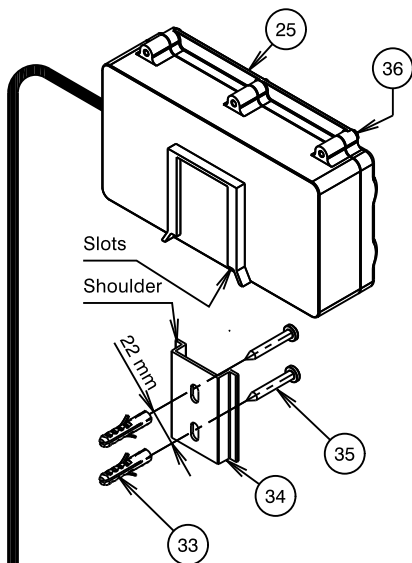

Fig.8 - Battery box installation
- i) Drill two Ø6mm holes, 40mm deep and 22mm apart vertically as shown in Fig. 8.
- ii) Insert small end of wall plugs (33) into drilled holes and tap until flush with wall/tile face.
- iii) Align the slots on bracket (34) with the holes on the wall, pass the screws (35) through the slots and insert into the wall plugs (33). Then tighten the screws DO NOT OVERTIGHTEN.
- iv) Slide the battery box (25) onto shoulder of bracket (34).
- i) Drill two holes at 22mm apart vertically to suit the self tapping screws supplied as shown in Fig. 8.
- ii) Align the slots on bracket (34) with the holes on the wall, pass the screws (35) through the slots and insert into the timber stud. Then tighten the screws (35). DO NOT OVERTIGHTEN.
- iii) Slide the battery box (25) onto the shoulders of bracket (34). Plug the power supply (20) into the mains and turn it ON.
7) Adding/Replacing batteries (See Fig. 8)